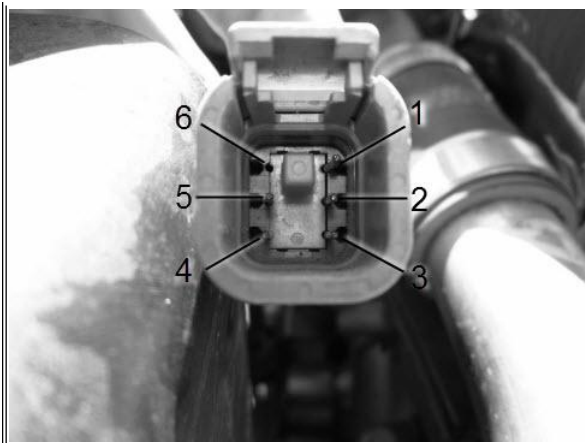

Figure 5. Pin Location Map (Front View)
13. Install wires into terminals in fan clutch harness connector following pin location map (Figure 5).